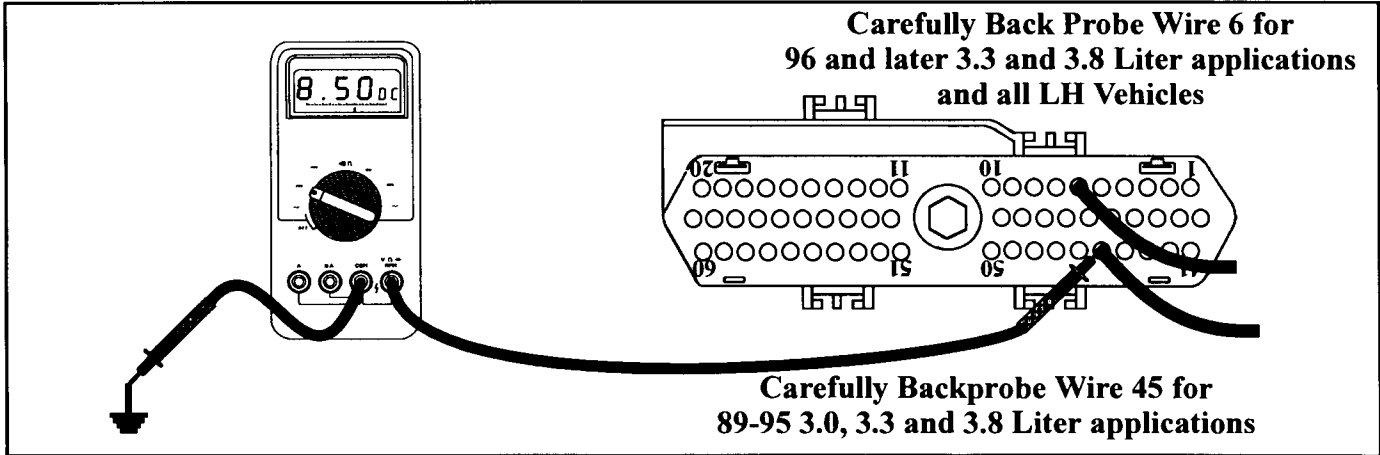
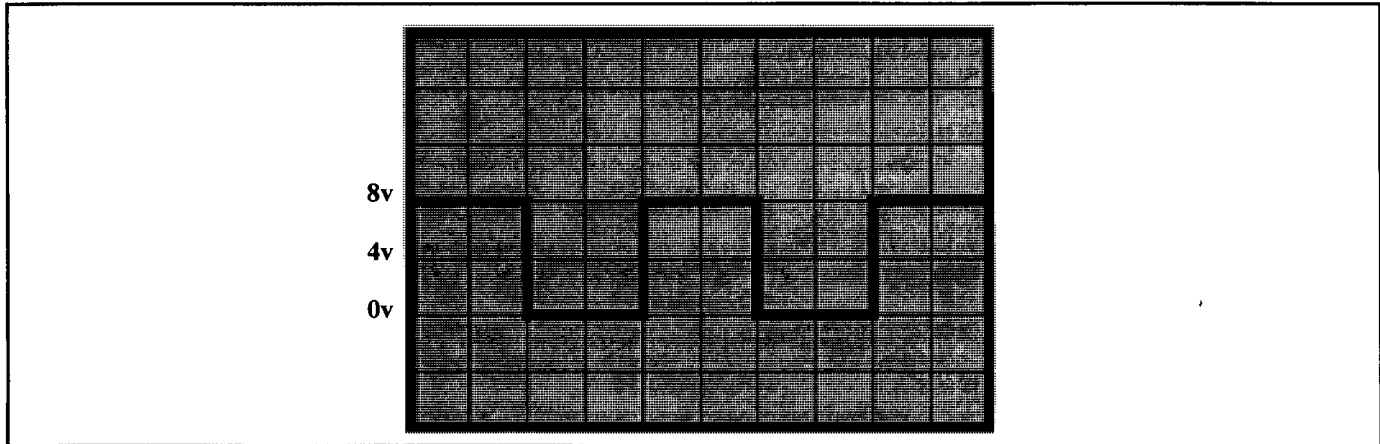

Figure 21
Figure 22
- With a DVOM set to DC volts, carefully back probe wire 45 at the TCM with the positive meter lead and place the negative meter lead to a good known ground (See Figure 21). With the key on and engine off, an 8 to 9 volt pulse should be seen as the crank shaft is turned by hand. If a voltage pulse is observed, the TCM needs to be replaced. If no volts are observed, go to the next step. *Note:* A square wave form is shown in Figure 22 for those that have oscilloscope testing capabilities (Test is performed with vehicle running).
- With a DVOM set to DC volts, using the positive meter lead carefully back probe wire 45 at the TCM for **89-95** 3.3 and 3.8L applications. For all LH vehicles and 96 and later 3.3 and 3.8L applications, back probe wire 6 at the TCM. Place the negative meter lead to a good known ground (See Figure 21). With the key on and engine off, approximately an 5 to 9 volt pulse should be seen as the crank shaft is turned by hand. If a voltage pulse is observed, the TCM needs to be replaced. If no volts are observed, go to the next step.